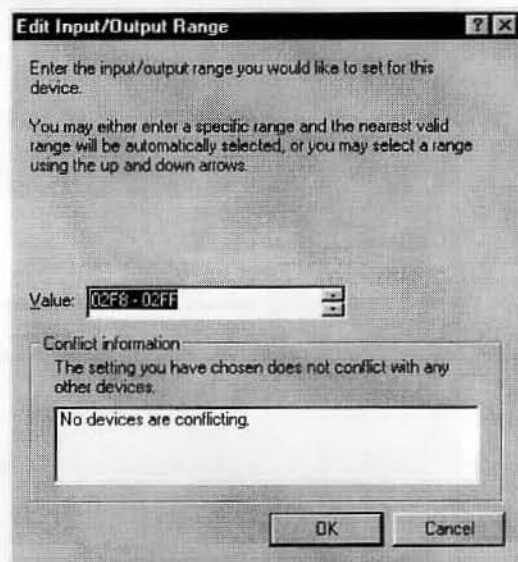

Figure 2-6
- From the **Edit Input/Output Range** dialog box, select the I/O port address to match the board setting in the "Value" drop-down box. (see **Figure 2-6**)